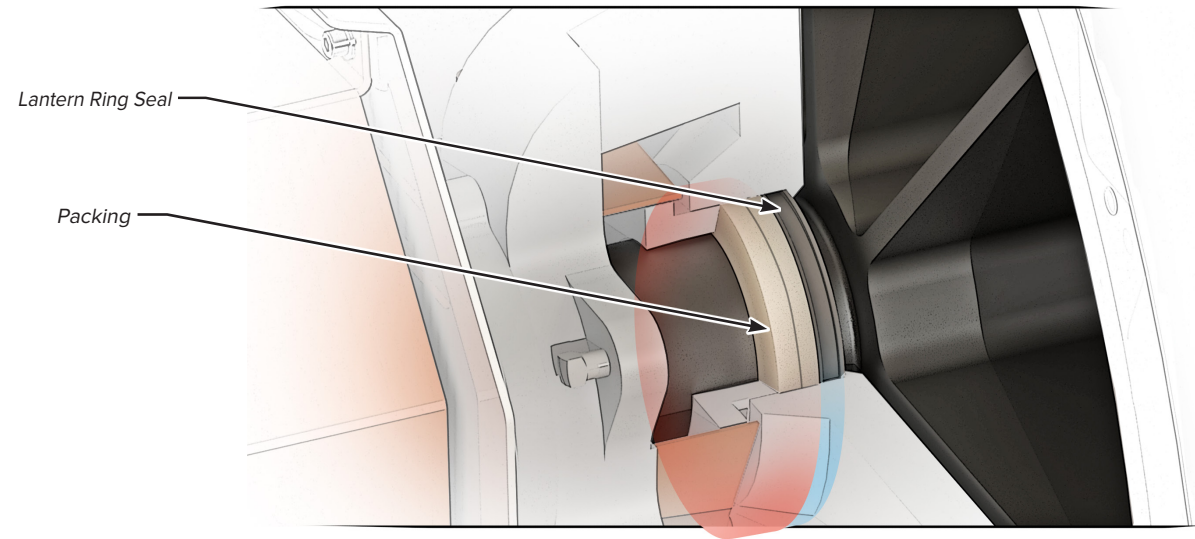

FIGURE 15
- 19. Insert new lantern ring into packing gland with the chamfered edge facing the rotor (Figure 15). A stamped “R” may additionally be found on the rotor facing side of the lantern ring.